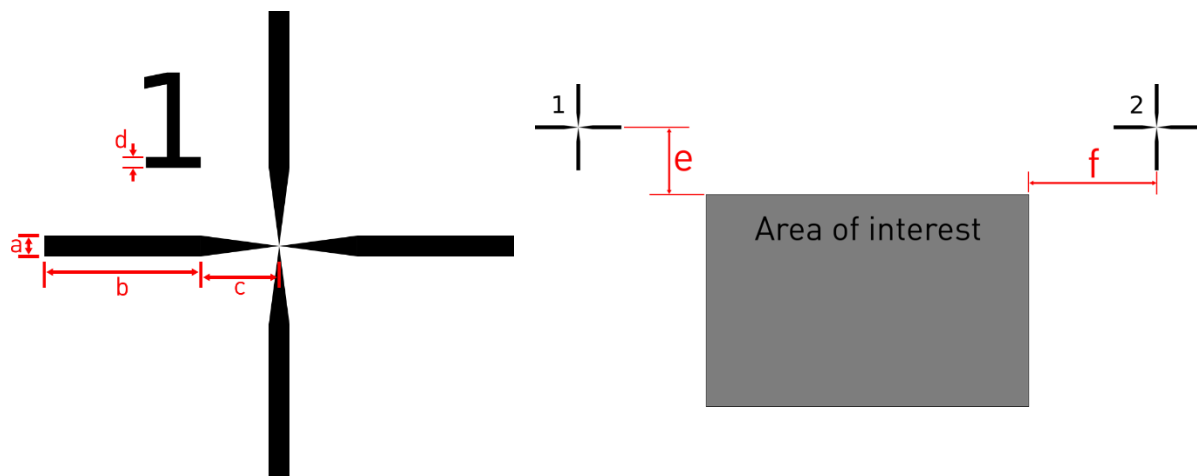

Figure 57 - Design rules. Left: focus on an alignment cross and its key dimensions. Right: cross positioning over the substrate
- Two alignment crosses surrounding the area of interest and located at two opposite corners from each other (Figure 57 right). For each design, the crosses must be at the same relative position
- Add a unique number to each cross (Figure 57 left) to avoid bad substrate orientation
Tableau 1 - Suggested dimensions for the design in Figure 57